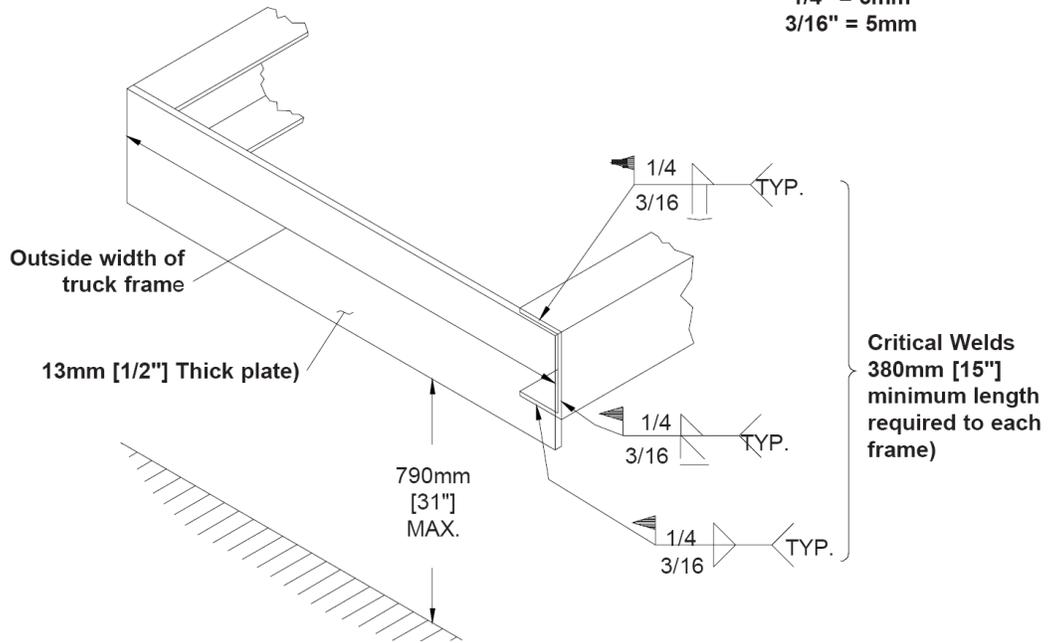

**Figure 1**
4. The TMA Cartridge is shipped attached to the Backup. The first step in the assembly process is to remove the assembly from the crate and make it mobile. This is accomplished by carefully removing the crating material to confirm the two Backup Jacks are attached. If the Jacks are not attached, attach them to the Backup as required (see Drawing 610984 on page 23). The TMA can be made mobile (see Figure 1).